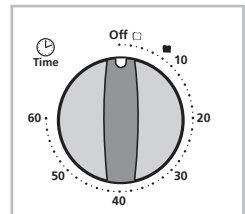

Figure 3
3. **Timer Control dial with bell signal** – Set cooking time up to 60 minutes. Will automatically turn the oven OFF at the end of the cooking time. (See Figure 3)